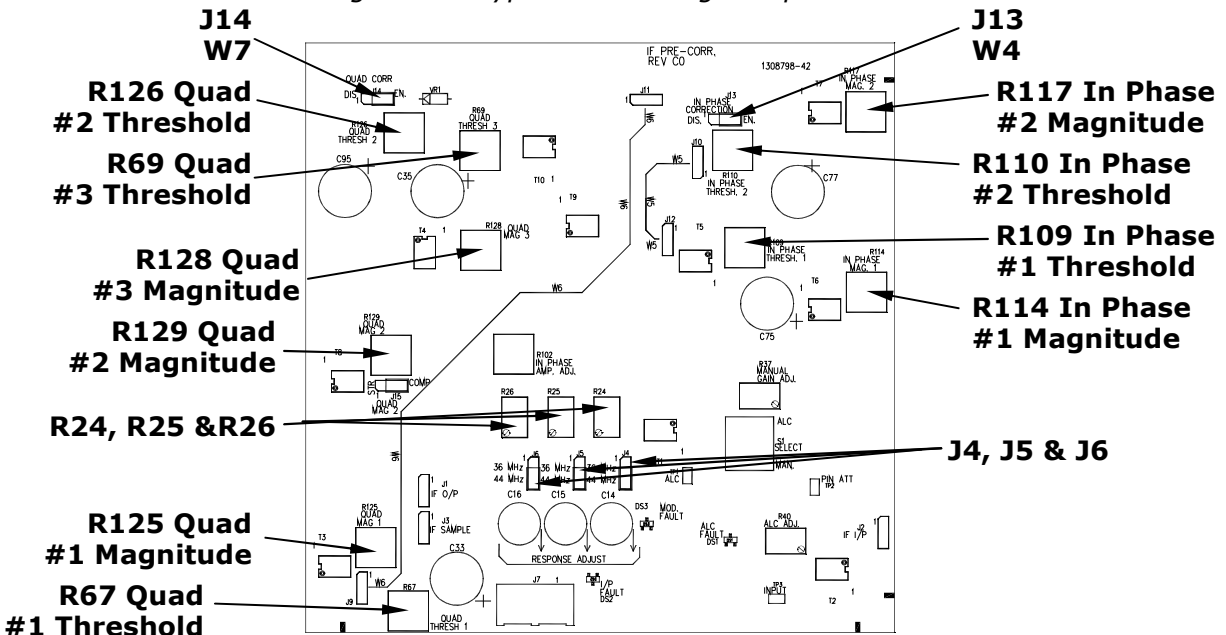

Figure 15: (A3) IF Pre-Corrector Board (1308796)
**NOTE:** Refer to Figure 15. On (A3) the IF Pre-Corrector Board (1308796), check that the Quadrature Correction enable/disable jumper W7 on J14 and the In Phase Correction enable/disable jumper W4 on J13 are in the Enable position, between pins 2 & 3.